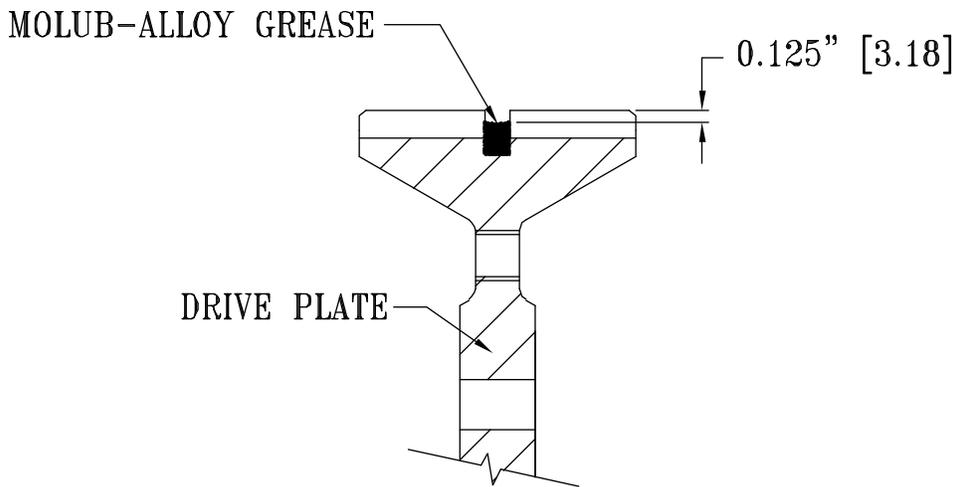

FIGURE 2
- 5.13 Pre-fill the grease channel in the drive plates (if applicable) with MOLUB-ALLOY OG Heavy grease or equivalent as shown in the detail below. Use MOLUB-ALLOY 412 ES for Corrosion resistance units. Fill the grease channel for 360 Deg. and to within .125" of the top of the grease channel as shown **FIGURE 2**.